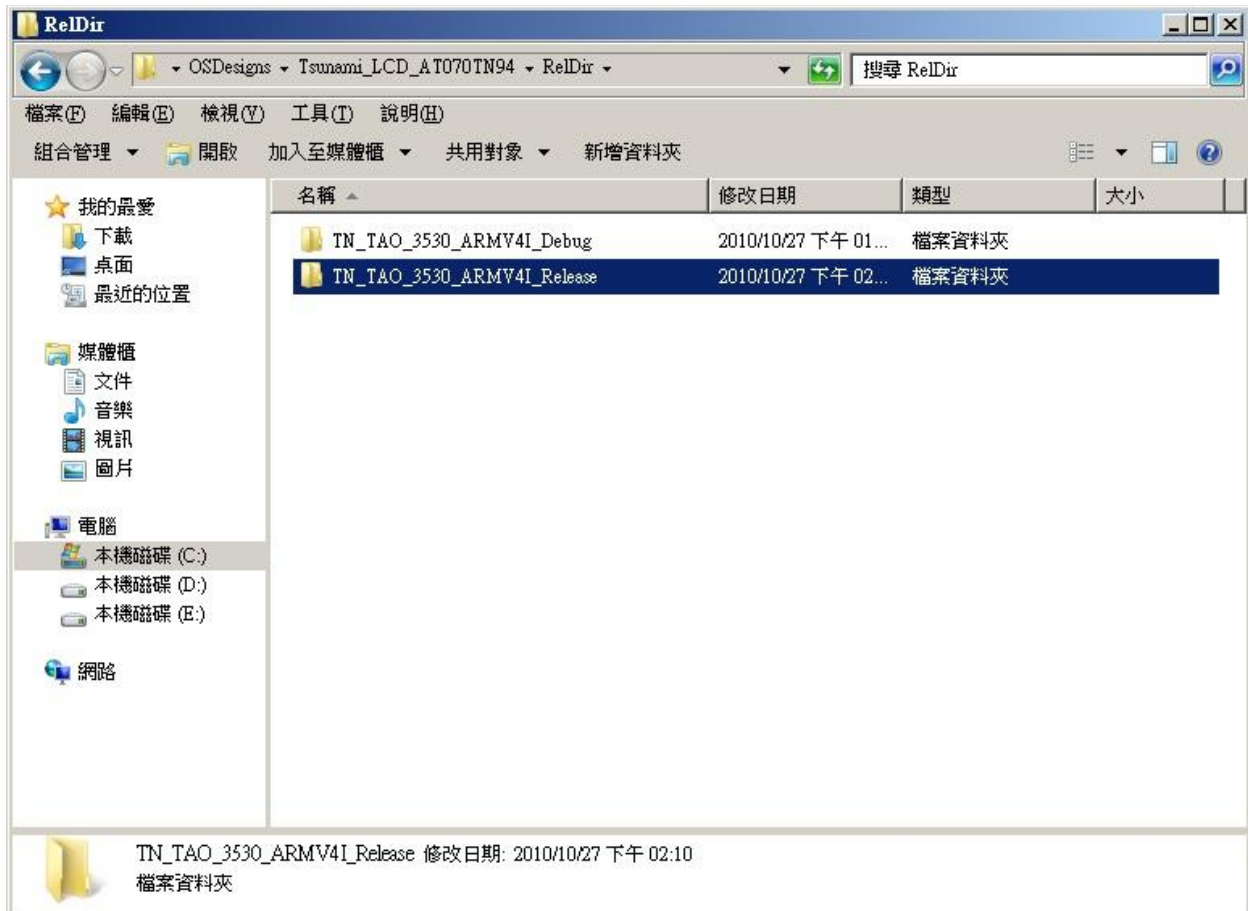

Figure 126
- Go to C:\WINCE600\OSDesigns\Tsunami_LCD_AT070TN94\RelDir” and open the folder “TN_TAO_3530_ARMV41_release” (See Figure 126). The folder contains files named: MLO, EBOOTSD.nb0, NK.bin (These files are needed for a bootable SD-card)